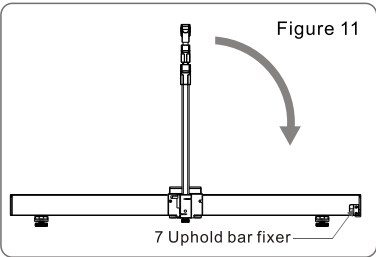

Figure 11
3.Fold down and lock uphold bar (8 ③) to its clip(7). Return the support foot to original position.(Figure 11)